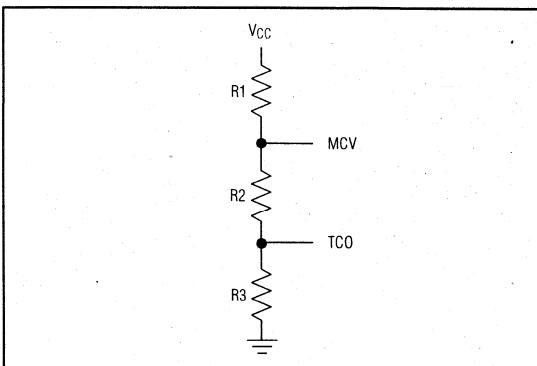
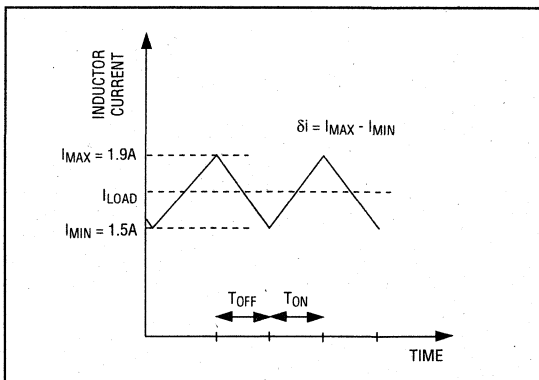

Figure 9. Resistor Configuration for MCV and TCO
Figure 10. Inductor-Current Waveform in Continuous-Conduction Mode
7) Select Maximum Cell Voltage (MCV) and Temperature Cutoff (TCO). The MCV and TCO can be selected with a resistor-divider combination (Figure 9). In our example, TCO has been set to +10°C, which corresponds to a voltage of 1.72V at the TS pin. The MCV for most fast-charge batteries can be set to about 1.9V. To minimize the current load on VCC, choose R1 in the range of 20k Ω to 200k Ω . In this example, choose $R_1 = 60.4k\Omega$, then calculate R3 and R2 as follows:
In order to provide high currents with minimum ripple, the device must function in the continuous-conduction mode. Figure 10 shows a current waveform of an inductor in the continuous-conduction mode (where the coil current never falls to zero).
The average load current (I_{LOAD}) through the inductor must be 1.7A, so a peak current (I_{MAX}) of 1.9A should give a fairly low ripple while keeping the inductor size minimal. This means that the total current change (Figure 10) across the inductor is $\delta i = 2 (1.9 - 1.7) = 0.4A$.
The MAX2003/MAX2003A can use several other circuits to charge batteries. Figure 9 shows a circuit that uses a Darlington transistor to regulate the current a six-cell NiCd battery pack receives. Figure 10 shows a gated current-limited supply being used to charge a Duracell NiMH battery pack. Table 6 lists the external components used in these two application configurations.